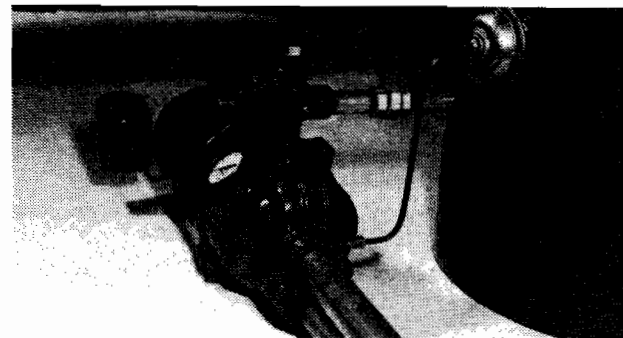

Figure 10
1. Air control tube is connected into $\frac{1}{8}$ " pipe tapping in pump case suction. (See Fig. 10).
1. Air control tube is connected into ½" pipe tapping in pump case suction. (See Fig. 10).